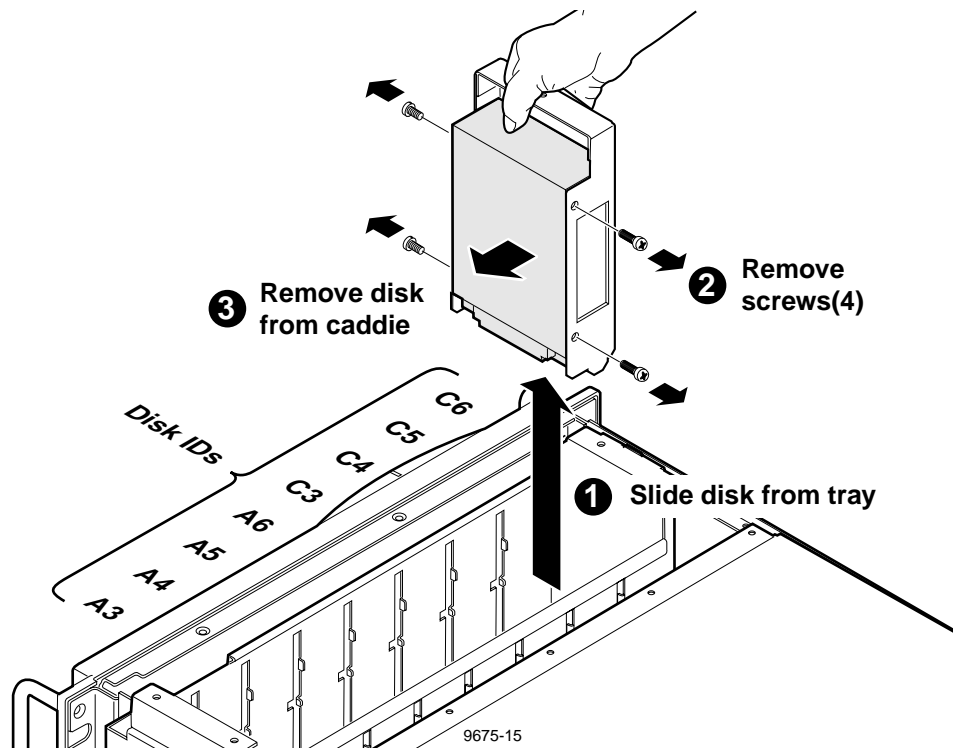

Figure 6-9. Removal of a Media Disk Drive
***NOTE: If you are removing more than one media disk drive at a time and intend to reinstall all of them, mark the locations of each drive to insure replacement in the same location. Figure 6-9 shows locations.***
4. Grasp the top of the disk drive caddie to be removed and pull straight up and out of the chassis and place on a flat, level, static-proof surface with the caddie side up (1 in Figure 6-9).
5. Use the Torx tool with the T10 tip to remove the four screws (two on each side) which mount the drive to the caddie (2 and 3 in Figure 6-9).
1. Drive mounting holes in the caddy are numbered 6 and 7. Position the drive in the caddy so that the number 6 holes align with the screw holes in the drive (Figure 6-9).
1. Perform steps 1-4 of the media disk drive removal procedure (page 6-14) for **all** media disk drives, being sure to mark the locations of all of the drives (1 in Figure 6-9, page 6-15).
4. Referring to Figure 6-9 for placement, replace the media disk drives.
7. Perform the media disk drive replacement procedure, being sure to reinstall the drives in the locations they were removed from (Figure 6-9, page 6-15).